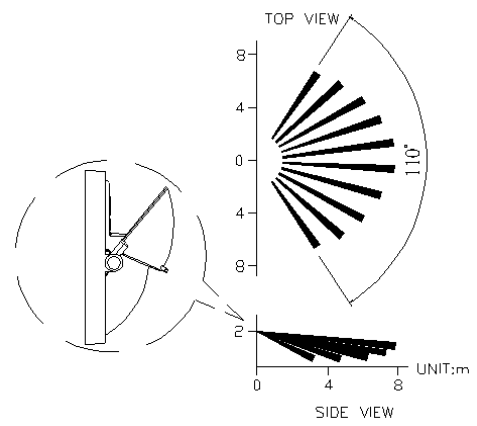

FIGURE 7b
- To restrict the detection area, hinge the PIR cover to the second position FIGURE 7b.